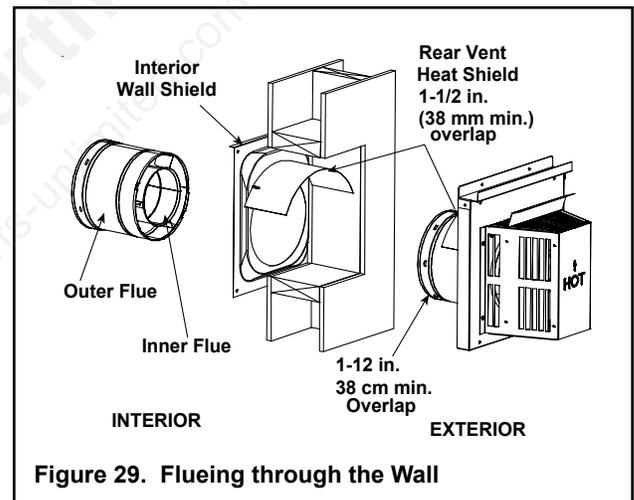

Figure 29. Flueing through the Wall
- The small leg in the shield rests on top of the flue to properly space it from the pipe section (see Figure 29).